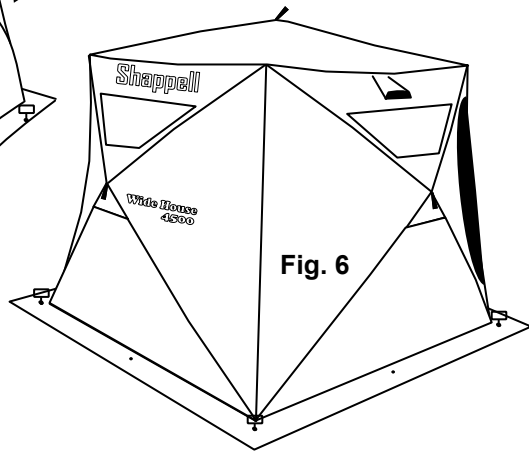

Fig. 6
6) Install remaining ice anchors as needed. (Fig. 6)